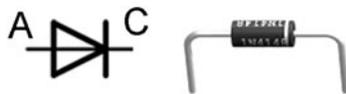
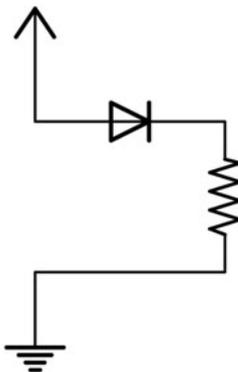

Fig. 10-5. Diode.
Fig. 10-6. Diode circuit.
Note the arrow in the diode's schematic figure in Fig. 10-5. This is the direction of the *forward current* (illustrated in terms of conventional current), flowing from the anode (A) to the cathode (C). The cathode line on the diode itself matches the line on the schematic. You can say that the diode's arrow points toward ground, or the circuit's negative terminal. For example, in the circuit in Fig. 10-6, the diode allows electricity to conduct through the resistive load.